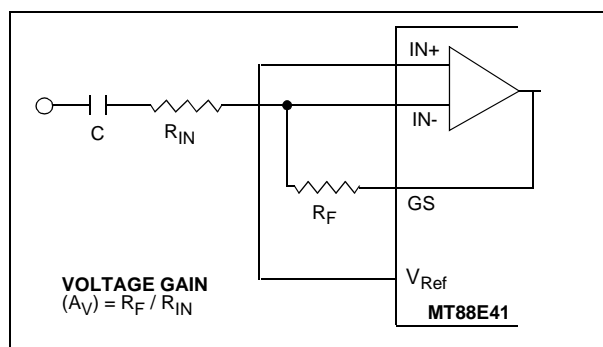

Figure 4 - Single-Ended Input Configuration
The input arrangement of the MT88E41 provides an operational amplifier, as well as a bias source (V_{Ref}) which is used to bias the inputs at $V_{DD}/2$. Provision is made for connection of a feedback resistor to the op-amp output (GS) for adjustment of gain. In a single-ended configuration, the input pins are connected as shown in Figure 4.